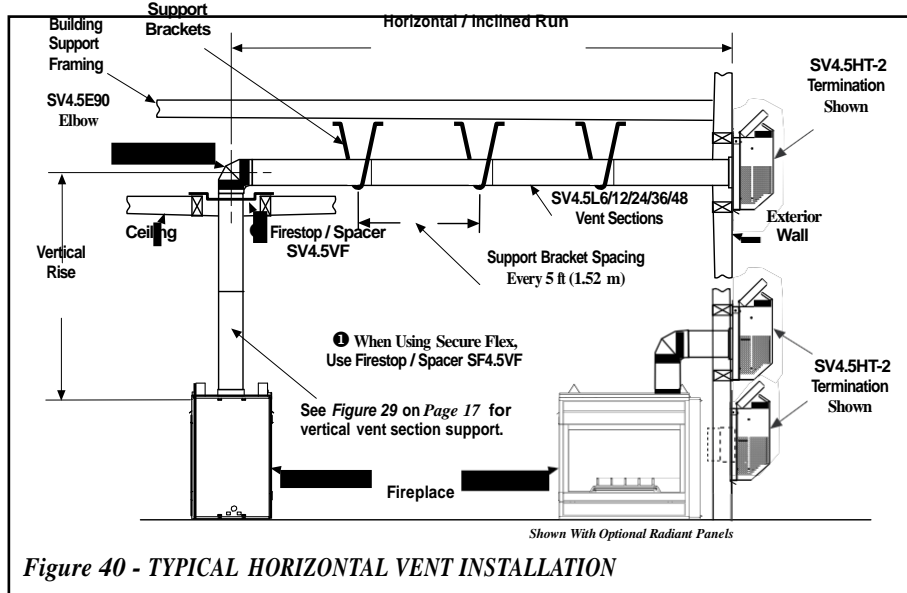

Figure 40 - TYPICAL HORIZONTAL VENT INSTALLATION
Figures 40, and Figures 43 to 48 on pages 25 to 27 and their associated Horizontal Vent Table illustrate the various horizontal venting configurations that are possible for use with these appliances. **Secure Vent®** pipe applications are shown in these figures; **Secure Flex®** pipe may also be used. A Horizontal Vent Table summarizes each system's minimum and maximum vertical and horizontal length values that can be used to design and install the vent components in a variety of applications.
I. Continue installation of horizontal/inclined sections - Continue with the installation of the straight vent sections in horizontal/inclined run as described in **Step E**. Install support straps every 5 ft. (1.52 m) along horizontal/inclined vent runs using conventional plumber's tape. See **Figure 40**, it is very important that the